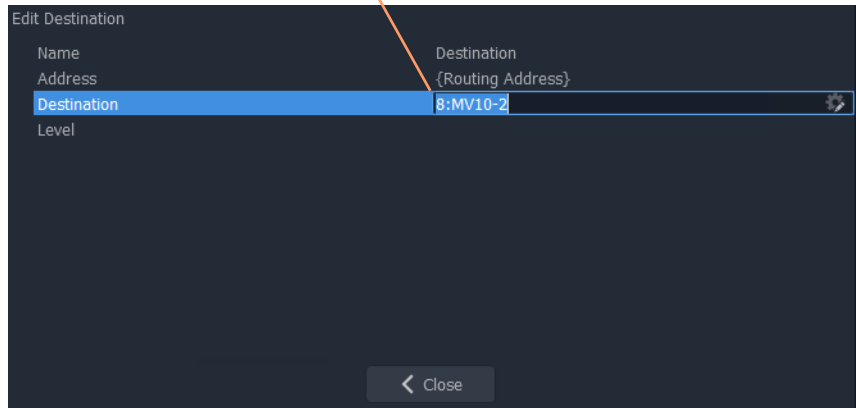

Fig. 14-56: Setting Destination for a Label's Destination Behaviour
- 6 Double-click on the **Destination** Behaviour and set its 'Destination' property to the same destination that each of the **Buttons** control. See Figure 14-56.